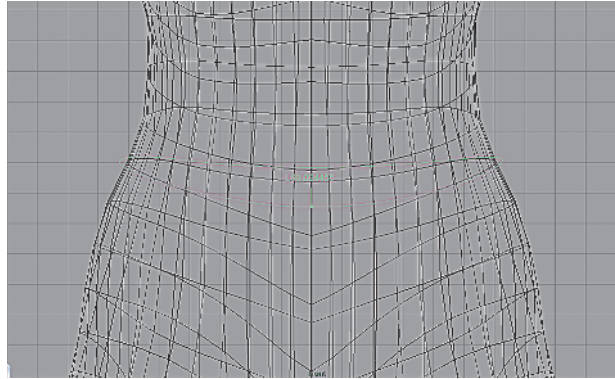

Figure 1.3: The skirt attach curve is offset away from the waist. The ArcLength tool displays the length of the curve.
6. Measure the curve's length. This will take the guesswork out of how much fabric is needed. A properly fit garment will have fewer stability issues during simulation. Choose **Create** → **Measure Tools** → **Arc Length Tool**. LMB click the curve and drag. You should see the length, from the beginning of the curve, displayed (see Figure 1.3).